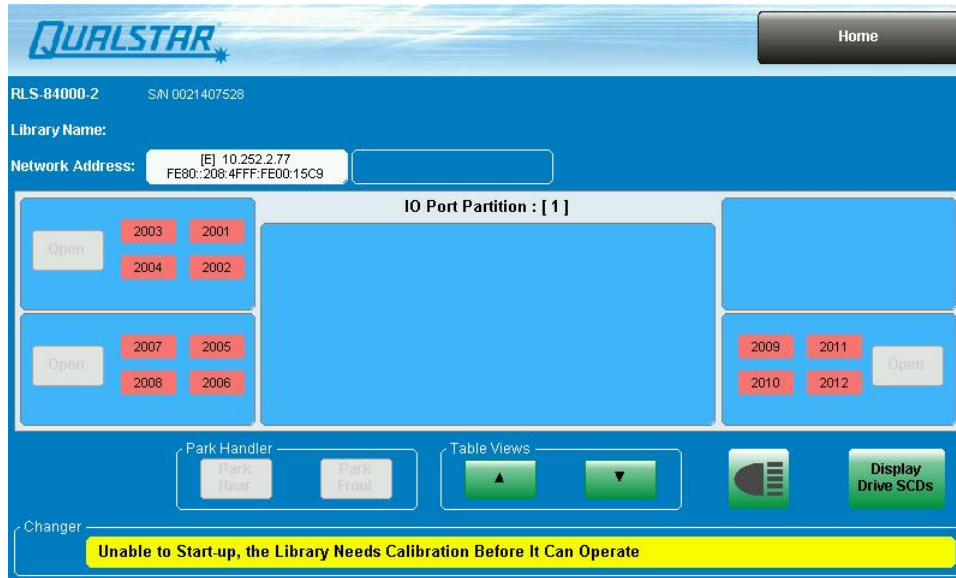

Figure 5-23 Calibration Needed Message on Bottom of Home Page Screen
23. Once both machines are powered up a message will appear on the Home Page screen stating that a calibration needs to be performed. See Figure 5-23.